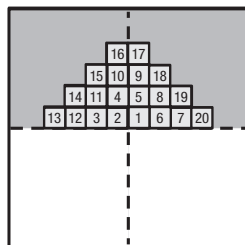

Figure 3
After determining the layout and snapping center line, spread adhesive and install flooring as outlined below using the dry to touch or wet-set application method. (See Figure 3)
**Applications:** Lay tiles from the center of the room in a pyramid fashion while working towards the walls as shown in Figure 3. The dry, tacky adhesive makes it possible to work on top of the material without compromising the installation.